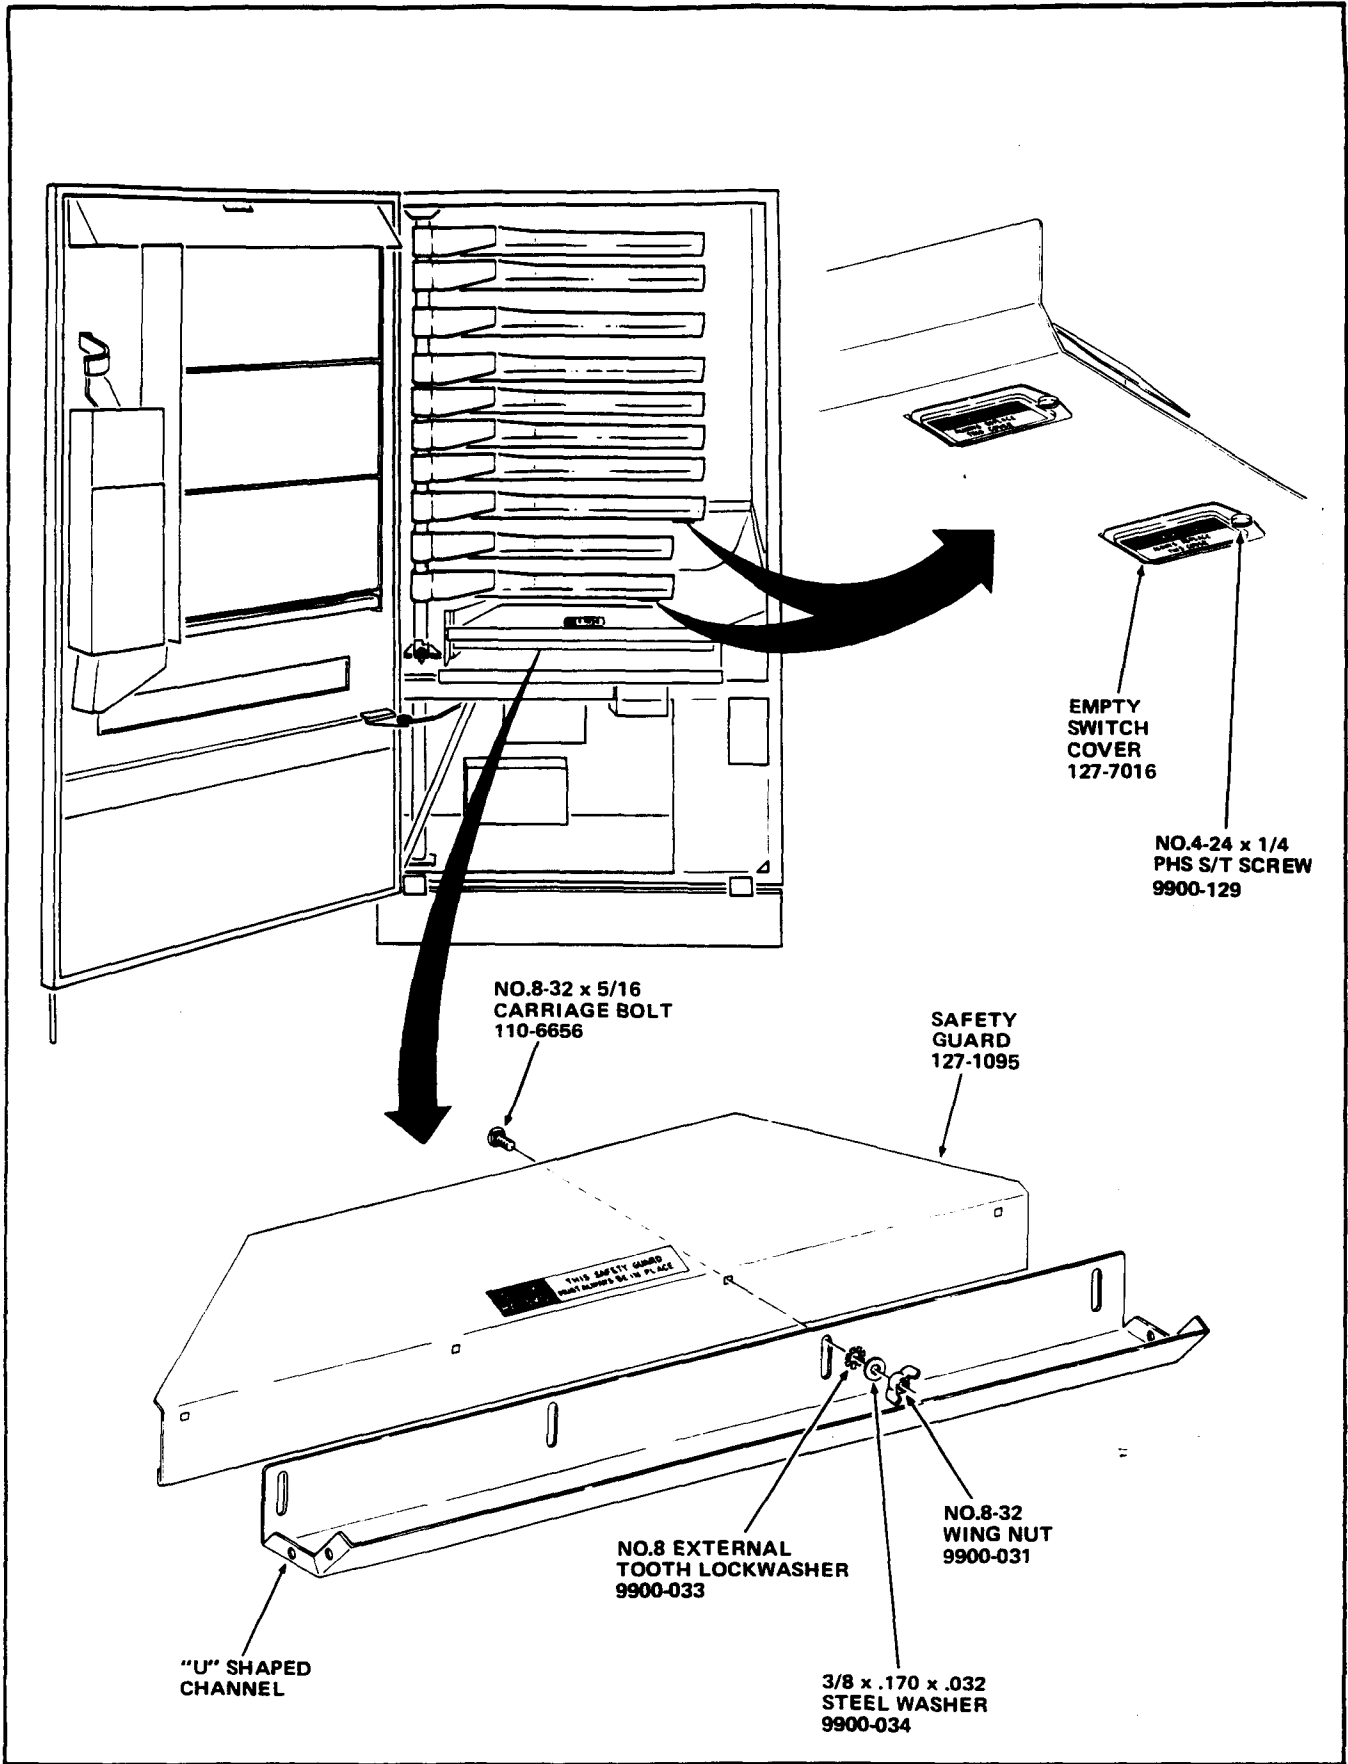

FIGURE 1
1. Install two Empty Switch Covers, Part Number 127-7016, included in the Kit, on the bottom of the No.1 Tray, as shown in Figure 1, using the No.4-24 x 1/4 Pan Head Self Tapping Screws removed in Step A-4. Tighten the Screws. Two No.4-24 x 1/4 Pan Head Self Tapping Screws are included in the Kit.
- a. Place four No.8-32 x 5/16 Carriage Bolts, Part Number 110-6656, removed in Step A-3, through the four holes in the Safety Guard as shown in Figure 1. Two Carriage Bolts are included in the Kit.
- c. Attach the Safety Guard to the "U" Shaped Channel using four No.8 External Tooth Lockwashers, Part Number 9900-033, four 3/8 x .170 x .032 Steel Washers, Part Number 9900-034, and four No.8-32 Wing Nuts, Part Number 9900-031, which were removed in Step A-3. Two Lockwashers, Steel Washers and Wing Nuts are included in the Kit. Place the External Tooth Lockwashers next to the "U" Shaped Channel and place the Steel Washers between the External Tooth Lockwashers and the Wing Nuts as shown in Figure 1.